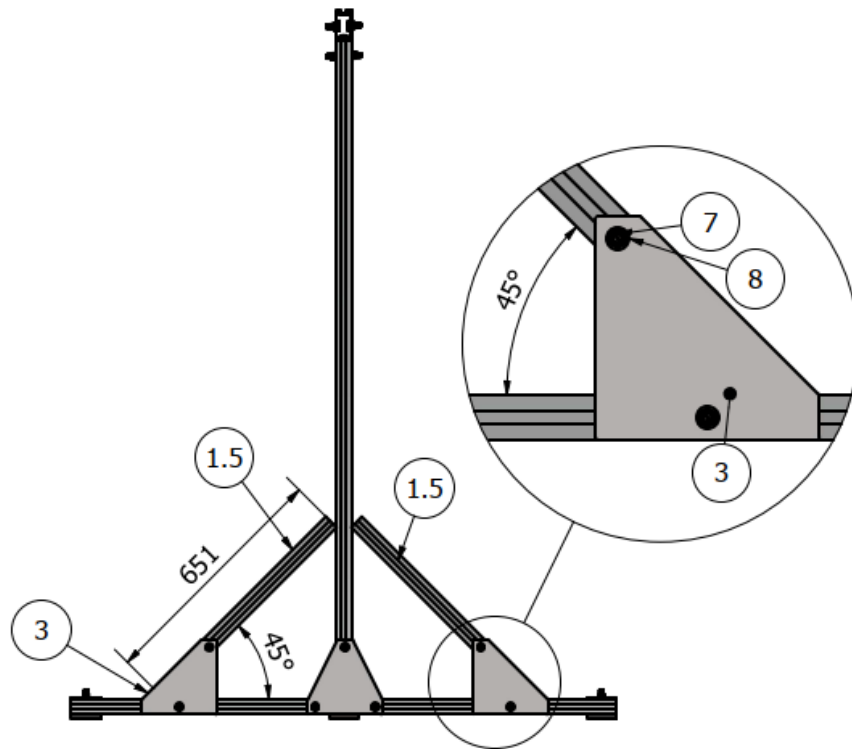

FIG. 6 Assembling the struts to the base
6. Screw the struts **1.5** to the base with the plates **3** as shown in Fig. 6. Maintain the strut angle of 45 degrees.